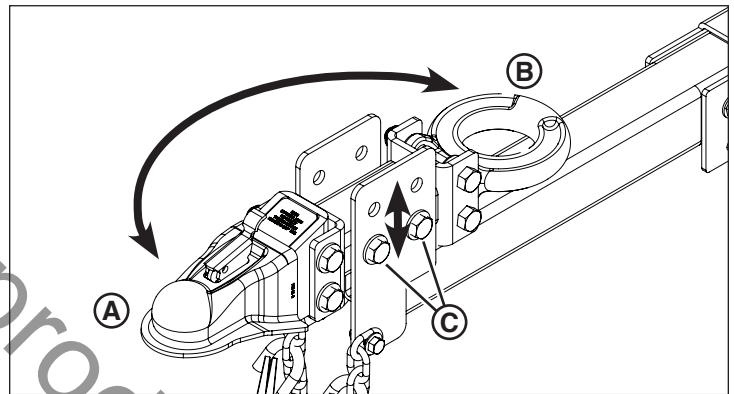

Figure 7
1. Remove the hardware (C, Figure 7) securing the trailer hitch bar to the trailer tongue. Discard the nylock nuts.
2. Reverse the trailer hitch bar so either the trailer coupler (A, Figure 7) or lunette eye (B) is facing forward. Install the hardware removed in Step 1 into the lower or upper set of holes in the trailer tongue, securing with new nylock nuts. Tighten to 110 lb-ft (149 Nm).